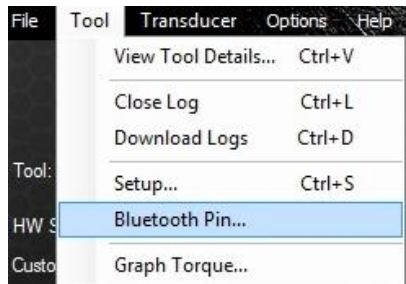

Figure 5.8-1: Bluetooth® Pin Button
2. From the Tool Menu, select “Bluetooth® Pin” (Figure 5.8-1).